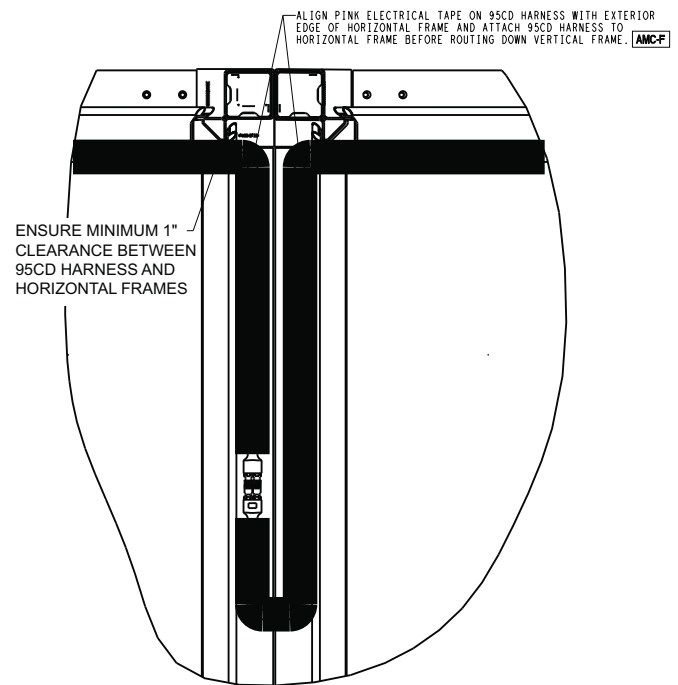

Fig. 29 — Harness After Field Assembly at Horizontal Split
7. Place downstream section within 12 in. of the upstream section and detach harness(es) from shipping restraints, connect power poles for each harness as shown in Fig. 29.